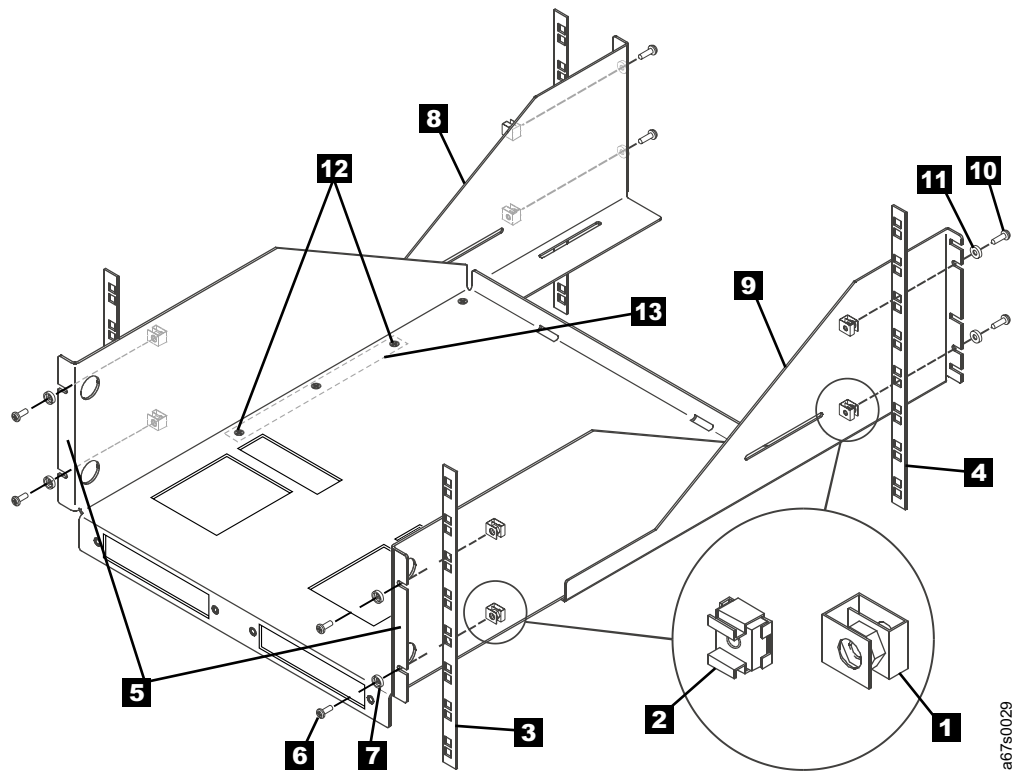

Figure 39. Installing the rackmount tray into the rack
5. On each of the rack's four vertical rails (Figure 39 on page 110 shows the two front rails **3** and the two rear rails **4**), install a panel nut **1** or cage nut **2** at the bottom boundary.
Figure 39 shows both panel nuts and cage nuts, but you must only install one type of nut.